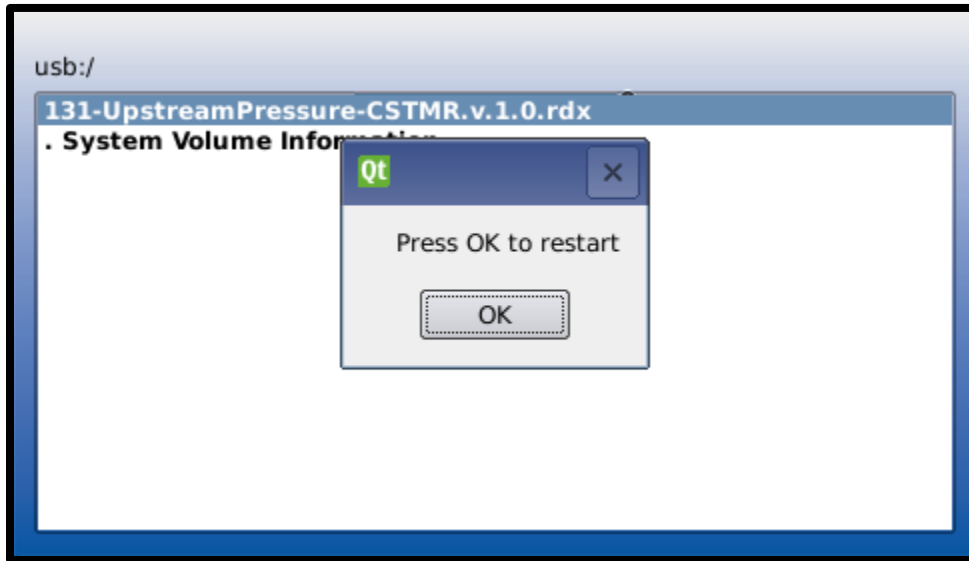

Figure 5.6
- e. Press “OK” to restart per **FIGURE 5.6**.